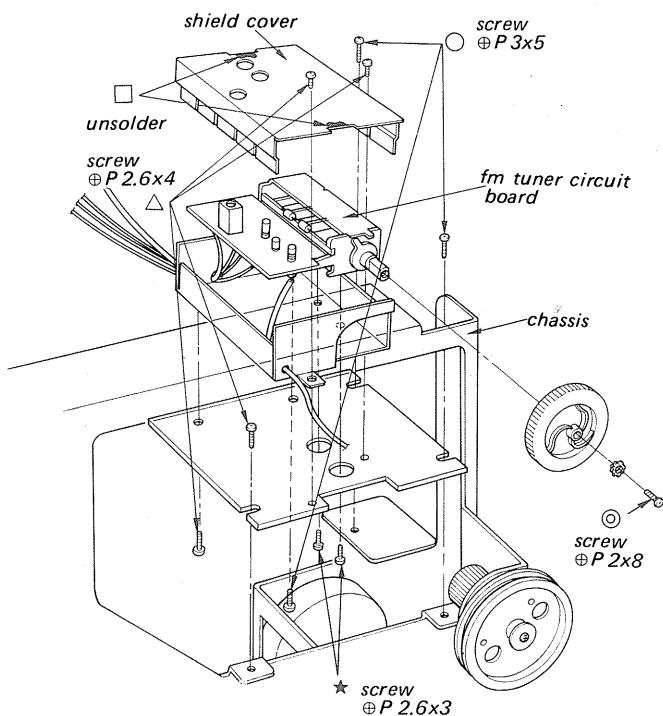

Fig. 2-7
2. Remove the seven screws marked ○ and △ in Fig. 2-7.